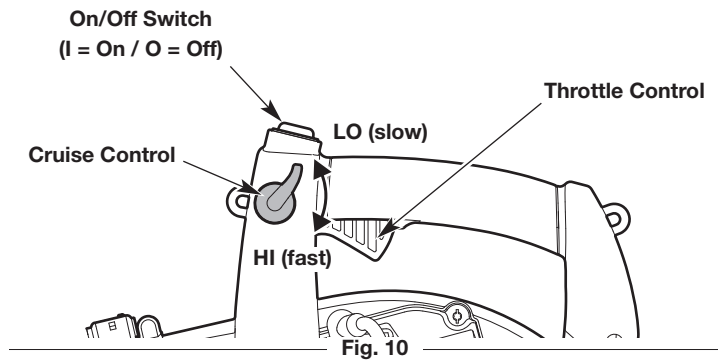

Fig. 10
NOTE: There is no need to turn the unit on. The On/Off switch is in the **On (I)** position at all times (Fig. 10).
4. Squeeze and hold the throttle control or move the cruise control to the **HI (fast)** position (Fig. 10).
NOTE: Continue to **SQUEEZE and HOLD** the throttle control, or keep the cruise control in the **HI (fast)** position, for **ALL** further steps (Fig. 10).
2. Press and hold the On/Off switch in the **Off (O)** position until the engine comes to a complete stop (Fig. 10).
- Use the cruise control to make continuous operation easier (Fig. 10).